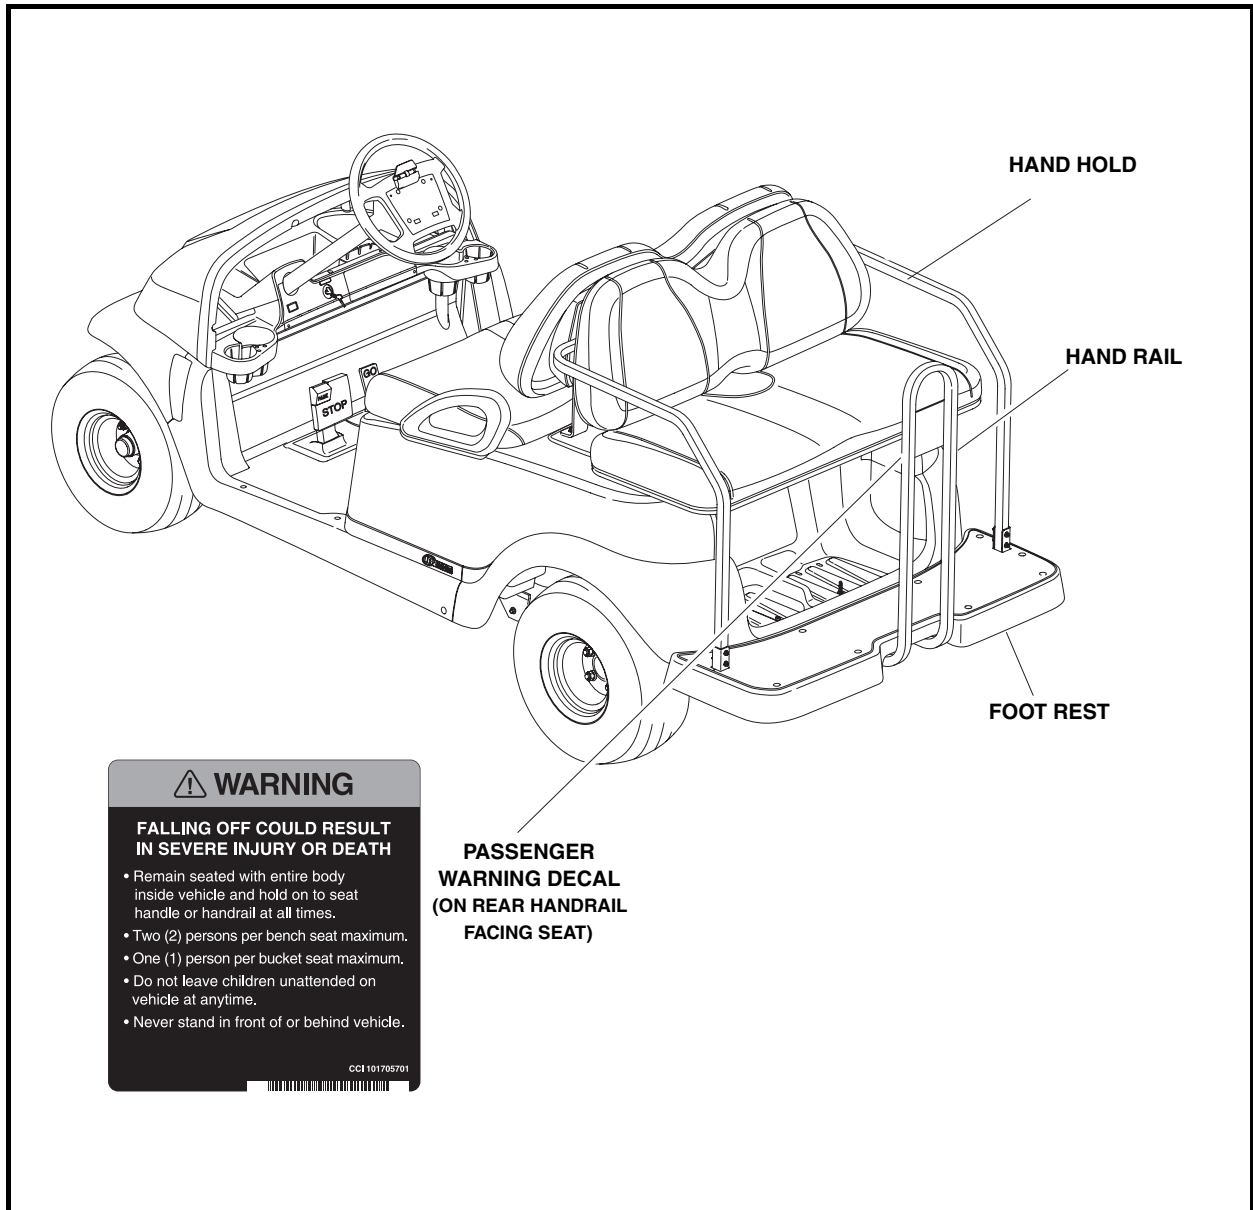

Figure 40 Precedent Villager 4
- Passengers should hold on to hand holds or hand rails at all times (Figure 40, Page 51). Driver should keep both hands on the steering wheel while vehicle is moving.